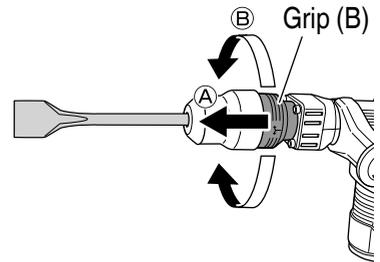
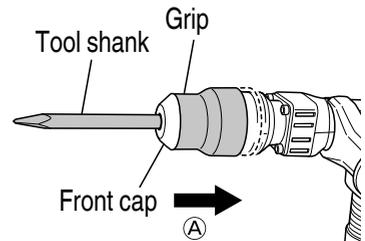

Fig. 7
Fig. 8
- (1) As shown in **Fig. 7**, the blade angle can be freely changed if the grip (B) is turned in the direction of (B) in a state where grip (B) is slid in the direction of (A).
- (2) Release grip (B) and turn the tool, and make sure that it is locked completely.
As shown in **Fig. 8**, slide the grip in the direction of (A) and pull out the tool.